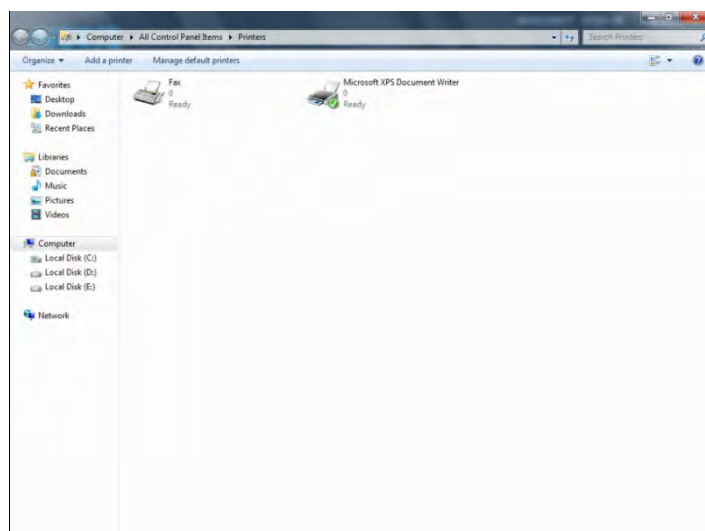

Figure 23: Printers
**Printer setup** allows users to set up printers and faxes that are connected to the system. Setup options include: **Add Printer**, **Set Printer Properties**, **Share Printer** and **View Printer Tasks**. The setup procedure is the same as that in the Windows screen. Click on **Printer Setup** in **Setup - Function Setup** to open the **Printers** screen, as shown in Figure 23.